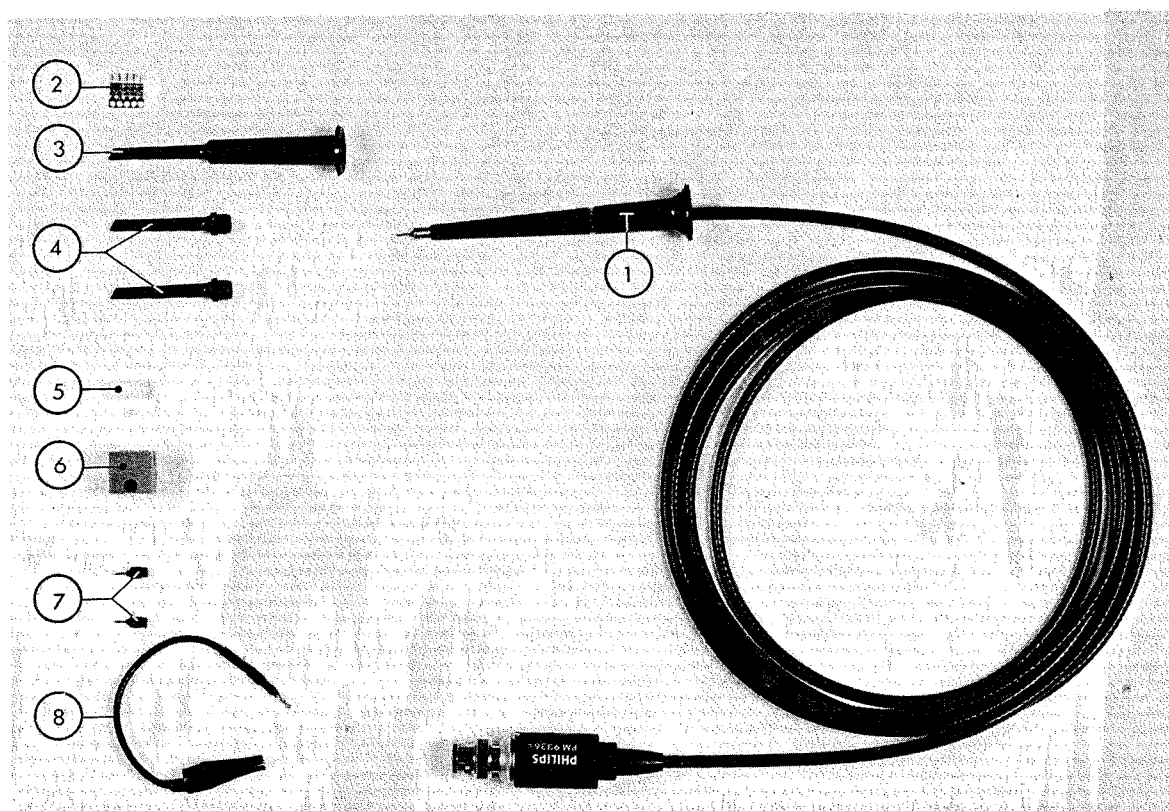

Fig. 3.20. Attenuator probe set PM 9336 (PM 9336L)
1 probe assembly	Fig. 3.20, item 1
5 soldering terminals	Fig. 3.20, item 2
1 test hook	Fig. 3.20, item 3
2 spare test hook sleeves	Fig. 3.20, item 4
1 protective cap	Fig. 3.20, item 5
1 probe holder	Fig. 3.20, item 6
2 probe tips	Fig. 3.20, item 7
1 earthing cord	Fig. 3.20, item 8